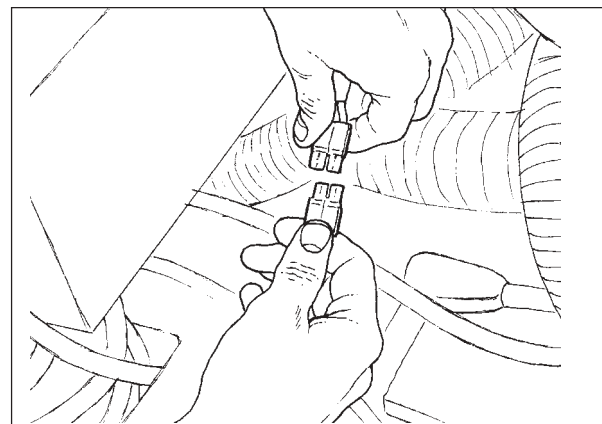

Figure 9
5. Disconnect the blue electrical float connector (See Figure 9).
- Reconnect the blue float connector (See figure 9, page 12).